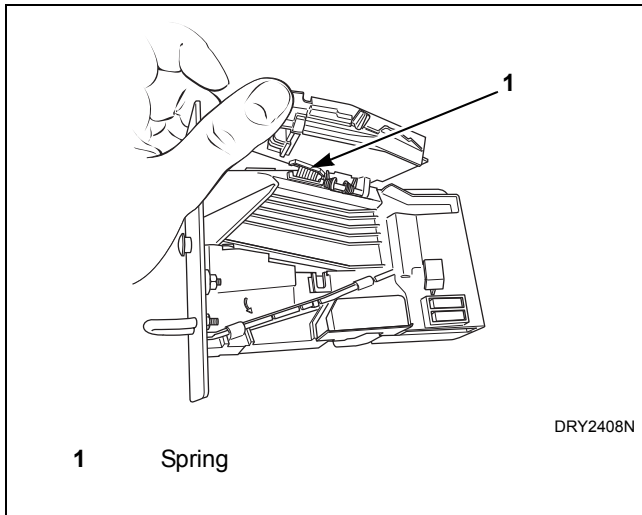

Figure 7
3. Open cover of coin drop. Refer to *Figure 7*.